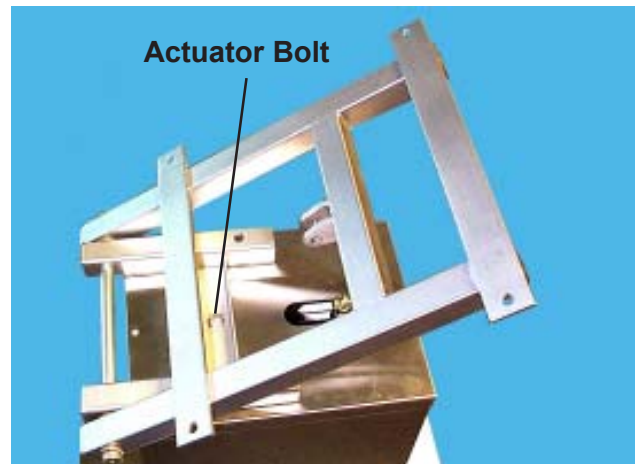

Figure 29. Actuator Bolt
5. Pivot the tilt portion of the top frame up to access the actuator bolt (Figure 29).
18. Place the top frame on top of the cap (Figure 29).